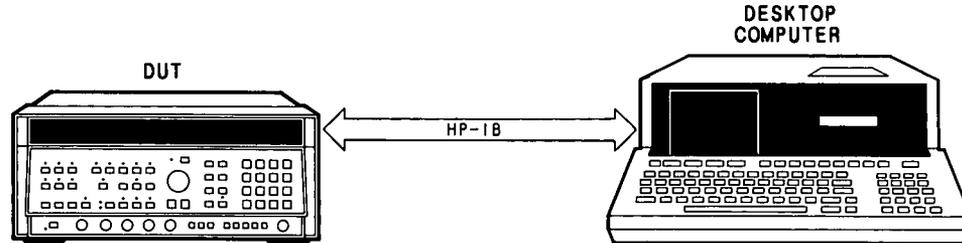

Figure 4-21. HP 8341B Option 003 HP-IB Operation and Verification Test Setup
1. Connect the equipment as shown in Figure 4-21. Enter the program shown in Table 4-31 if the HP 85F is used, or the program in Table 4-32 if the HP 9826A or 9836A is used. Press the RUN key. The program will display the DUT's status bytes similar to Table 4-30. After the program goes through the output loop routine about two times, all status bits should be "0" and the DUT should be in LOCAL mode (front panel REMOTE indicator not ON).